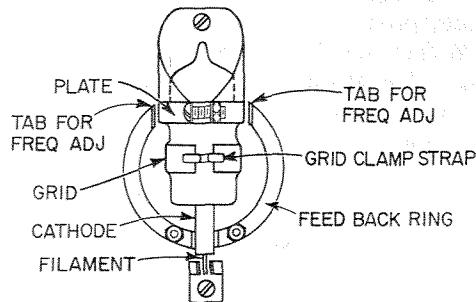

Figure 6. Installation Detail, Type 6481 Oscillator Tube.
C207B, held close to the plate and connected to the cathode by means of a horseshoe-shaped supporting member. See Figure 6 for mechanical details.
4.3.2 TUBE REPLACEMENT IN 250-940-MC UNIT. The procedure for replacing the oscillator tube in the Type 1021-P2 UHF Oscillator Unit (250-940 Mc) is as follows (see Figure 6):